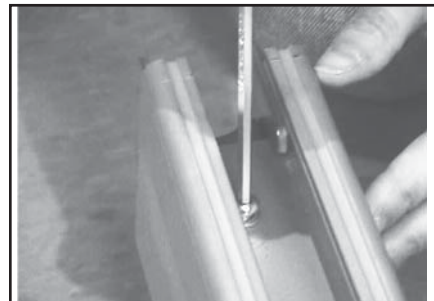

Figure 14
- Using the button bolt and locking washer included, bolt the hook into place using the 4mm Allen key (Figure 14). DO NOT OVER-TIGHTEN. Secure one hook into each end of the rail.